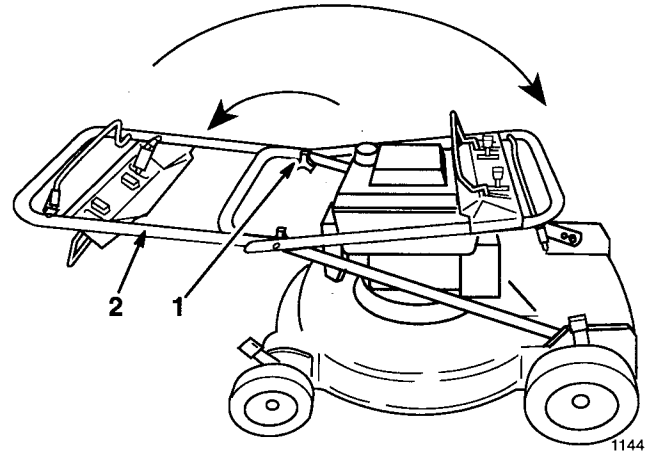

Figure 50
2. Rotate handle toward front of mower (Fig. 50).